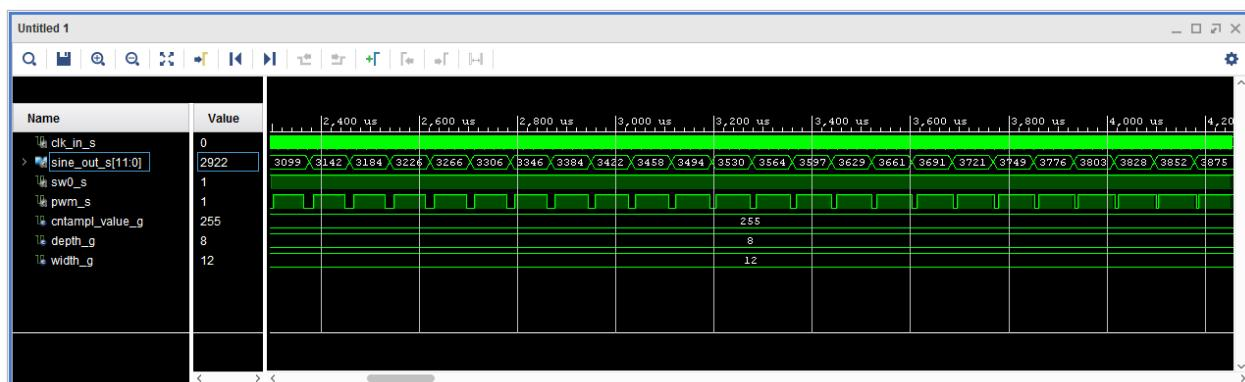

Figure 7.3: Simulation Results
3. Assuming no errors, your simulation result should look similar to Figure 7.3.